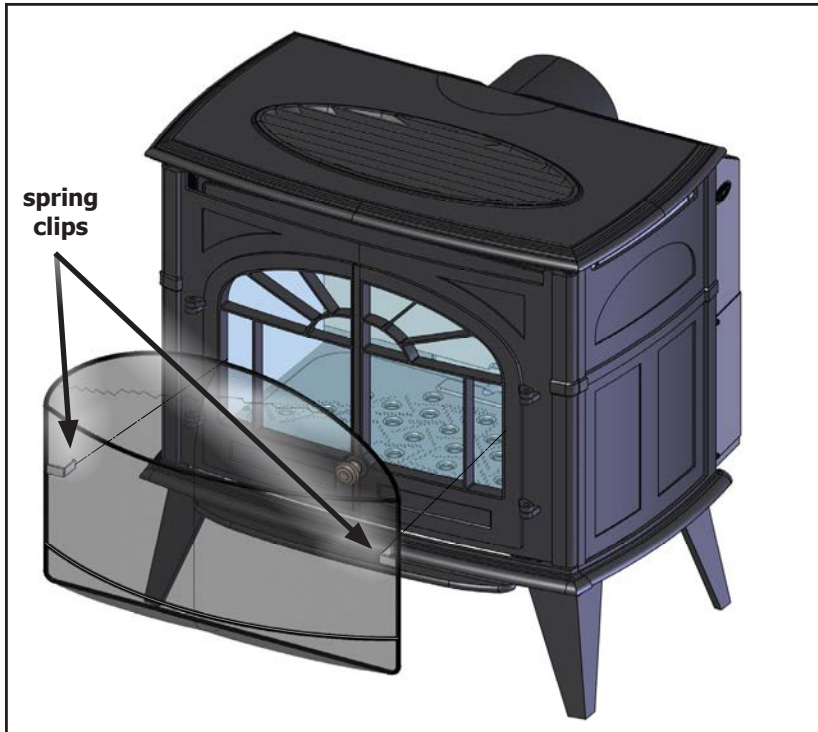

Figure 64: Safety Screen Installation
1. Align the spring clips on the side of the screen with the inside edge of the cast door (see Figure 64)